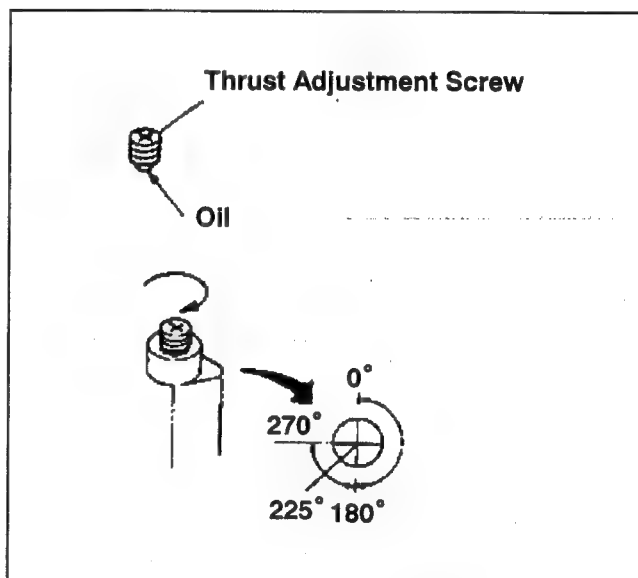

Fig.6-24-2 Adjustment of Thrust Adjustment Screw
5. Turn the Thrust Adjustment Screw an another angle of 270° from 180° (about 225°) clockwise as shown in Fig. 6-24-2.